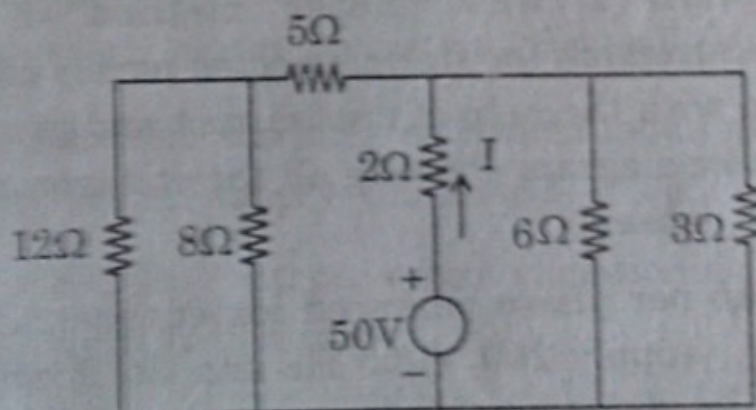

Fig. 2.1.
2. (a) Use nodal method to determine the current supplied by 50V source shown in the figure: 2.1. 10